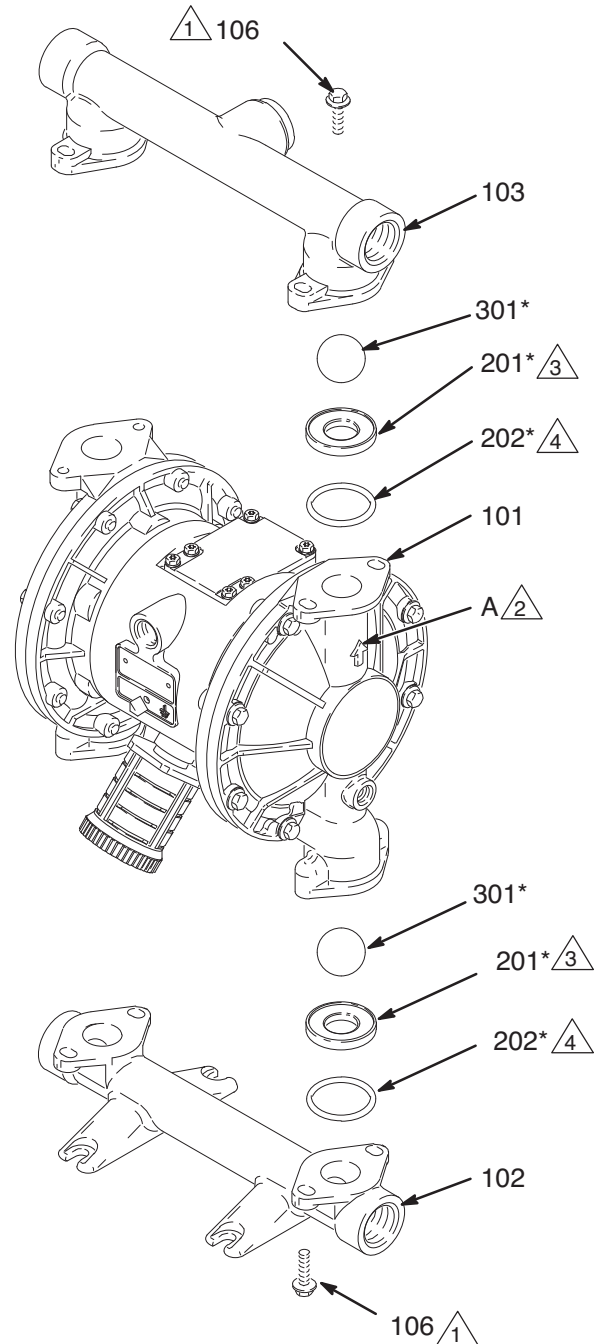

Fig. 12
3. Using a 10 mm socket wrench, remove the four bolts (106) and nuts (114, *used on stainless steel pumps only*) holding the outlet manifold (103) to the fluid covers (101). See Fig. 12.
4. Remove the o-rings (202, *not used on some models*), seats (201), and balls (301) from the manifold (103).
5. Turn the pump over and remove the inlet manifold (102). Remove the o-rings (202, *not used on some models*), seats (201), and balls (301) from the fluid covers (101).
2. Reassemble in the reverse order, following all notes in Fig. 12. Be sure the ball checks and manifolds are assembled **exactly** as shown. The arrows (A) on the fluid covers (101) must point toward the outlet manifold (103).